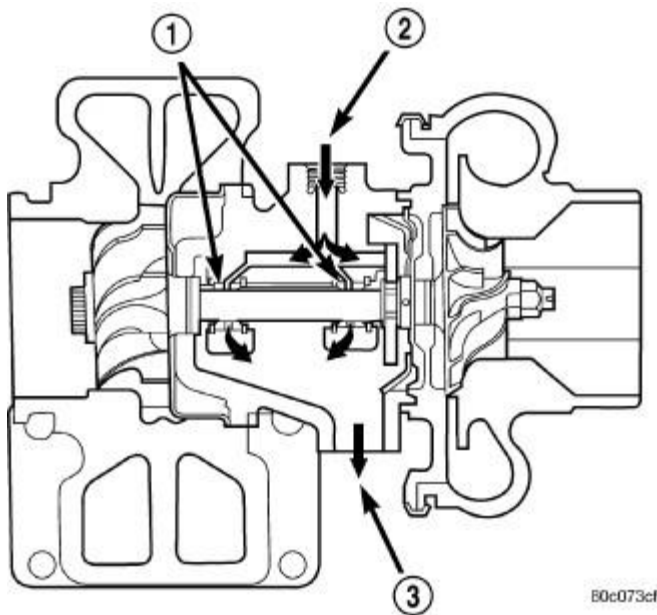

Fig. 302: Turbocharger Oil Supply and Drain
The turbocharger is lubricated by engine oil that is pressurized, cooled, and filtered. The oil is delivered to the turbocharger by a supply line (2) that is tapped into the engine block. The oil travels into the bearing housing, where it lubricates the shaft (1) and bearings. See **Fig. 302** . A return pipe (3) at the bottom of the bearing housing, routes the engine oil back to the crankcase.